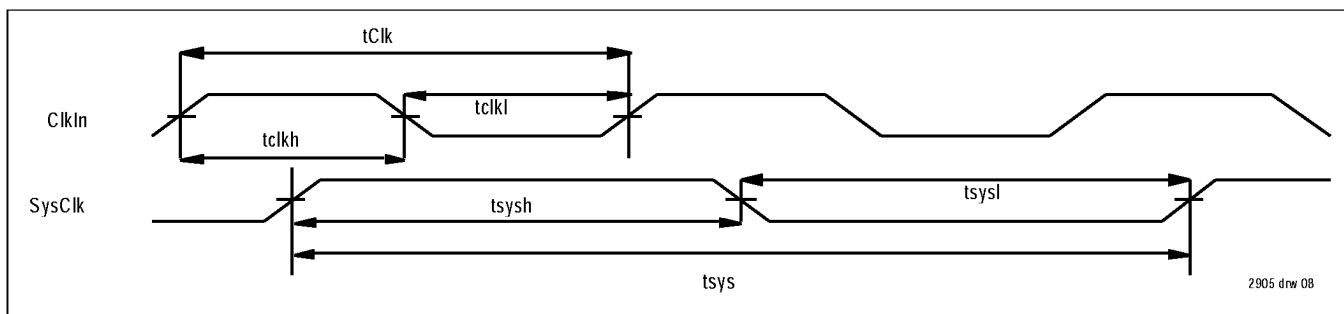
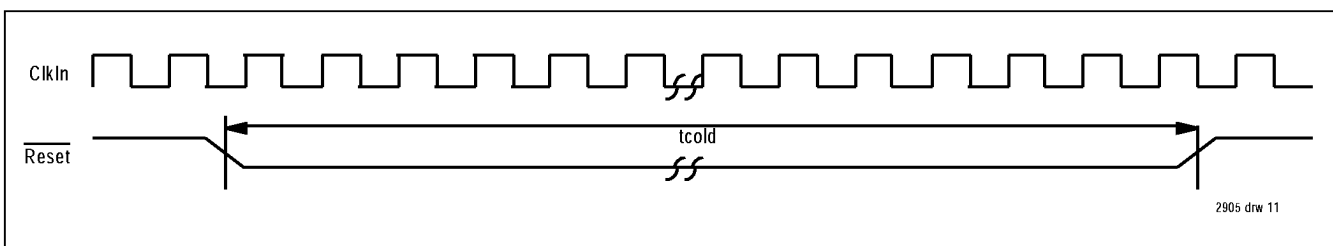

Figure 2: Clocking Sequence
Figure 5: Warm Reset Sequence (Internal Pull-Ups Used)
2. For timing diagrams of the ClkIn, Reset, and SysClk signals, see Figure 2 through Figure 5 on the following page.